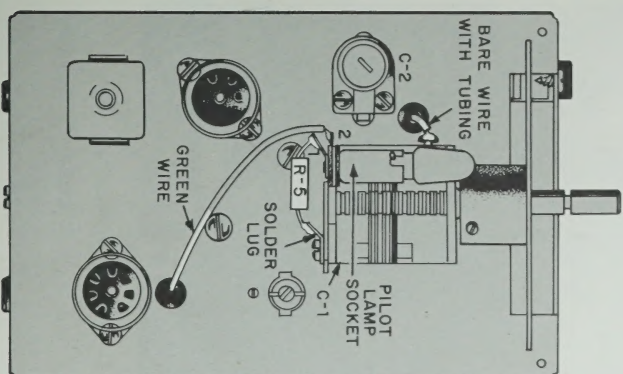

FIGURE 9
- ☒ C-2, trimmer capacitor. Bend the lugs at right angles so they fit into the holes in the chassis. Mount from the top of the chassis with two 4-40 x 3/8" screws, a lockwasher, a solder lug and two nuts. Mount the solder lug on the screw closer to TS-2. Caution: Do not overtighten these screws. See Figure 9 for a top view of the chassis and C-2.
SEE FIGURE 9.